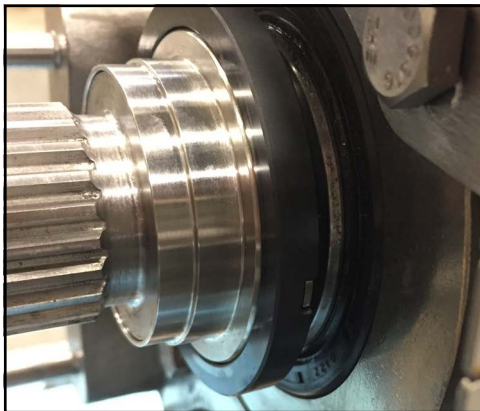

Figure 184 - Rotary seal installed
29. Figure 184 shows the seal installed.